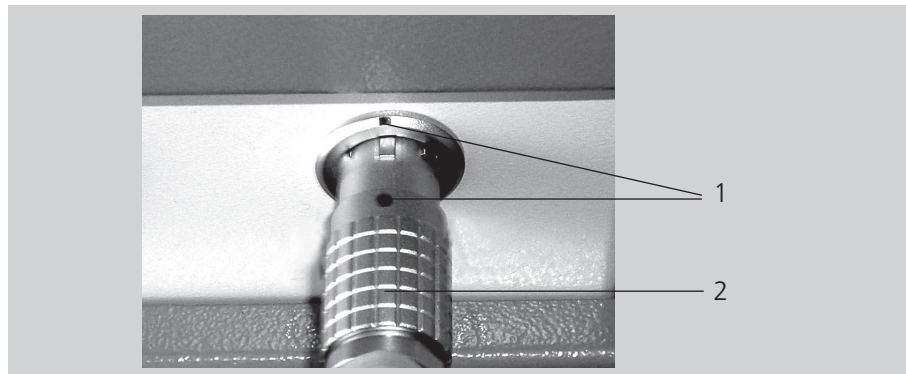

Fig. 2-1 Connecting the handpiece
- Line up the red dots on the plug with the red dots on the connector (Fig. 2-1/1) before connecting.